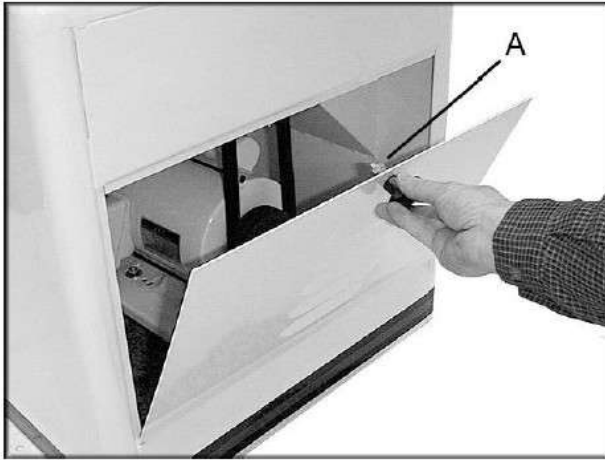

Fig 8
Install access door by placing bottom of panel into access in stand and fastening by turning latch (Fig. 8).
2. Loosen the hex lock nut (A, Fig.8). Rotate the latch a quarter turn clockwise to tighten and counterclockwise to loosen.
3. Tighten the lock nut (A, Fig. 8).